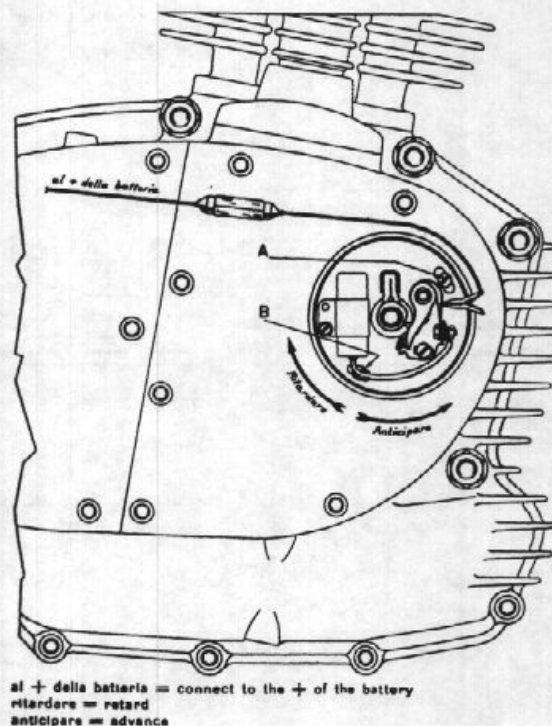

Fig. 35
- 5) Adjust the contact-breaker opening to  $0,3 \pm 0,4$  mm ( $.012 \div .015$  in.) and then connect up the spring of the moving part of the contact-breaker to a 6 V - 3 W lamp in series with the positive terminal of the battery (fig. 35). This lamp should light up.